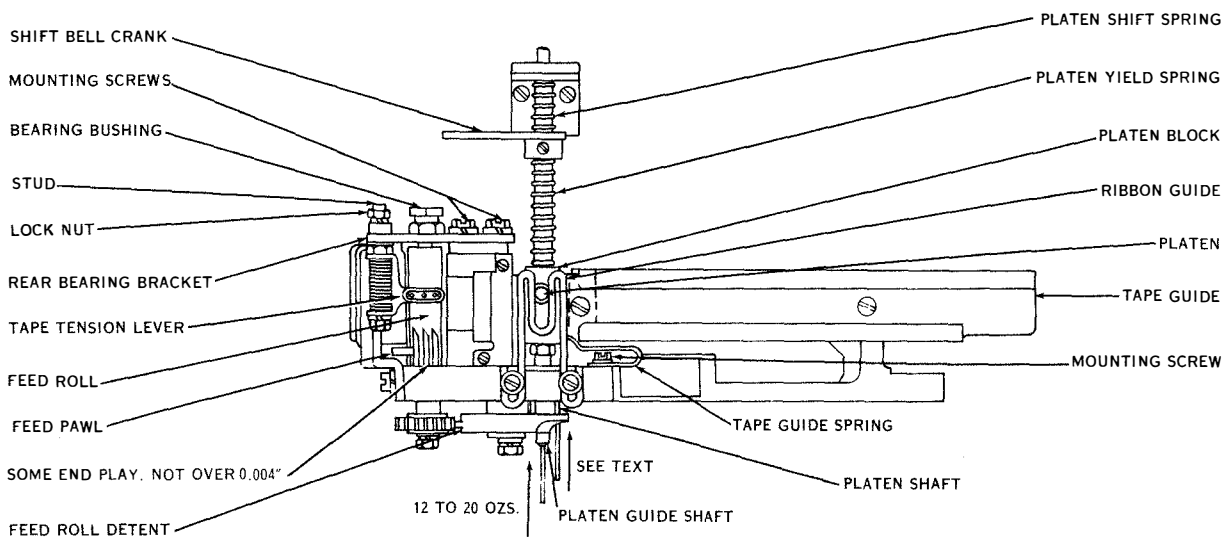

Figure 7-55. Feed Roll Bearings and Platen Shift and Yield Spring Tensions
(54) FEED ROLL BEARINGS. (See figure 7-55.)—The feed roll should turn free in its bearings and have some end play, not over 0.004 inch. To check, hold the feed roll detent, feed pawl, and tape tension lever away from the feed roll and check the clearance. To adjust, first position the rear bearing bracket to provide freedom of rotation and then adjust the bearing bushing to provide the proper amount of end play.
(75) RIBBON GUIDE. (See figure 7-55.)—The ribbon should be centrally located with respect to any type pallet. To adjust, position the ribbon guide to the front or rear as required.
(79) PLATEN SHIFT SPRING TENSION. (See figures 7-55 and 7-61.)—A tension of 5 to $7\frac{1}{2}$ ounces should be required to start the shift bell crank extension moving away from the rear shoulder of the shift lever. To check, move the platen to the LETTERS position and apply the push end of a 64-ounce scale to the front end of the platen shaft and push horizontally toward the rear (see figure 7-55). Note the tension as the shift bell crank extension starts to move. If these specifications are not met, replace spring.
(80) PLATEN YIELD SPRING TENSION. (See figure 7-55.)—A tension of 12 to 20 ounces should be required to start the platen block moving on the platen shaft. To check, hold the platen shaft in its extreme rear position and place the push end of a 64-ounce scale on the front end of the platen guide shaft and push horizontally toward the rear. Note the tension as the platen block starts to move on the shaft.
(82) TAPE GUIDE SPRING. (See figure 7-55.)—The tape guide spring should be positioned so that the edge of the spring is parallel to the upper edge of the punch unit casting. The pressure tip of the spring should engage the tape at a point opposite the cutout in the tape guide and should press the tape firmly against the rear side of the guide channel in the punch block without buckling the tape. To adjust, position and/or bend the spring.